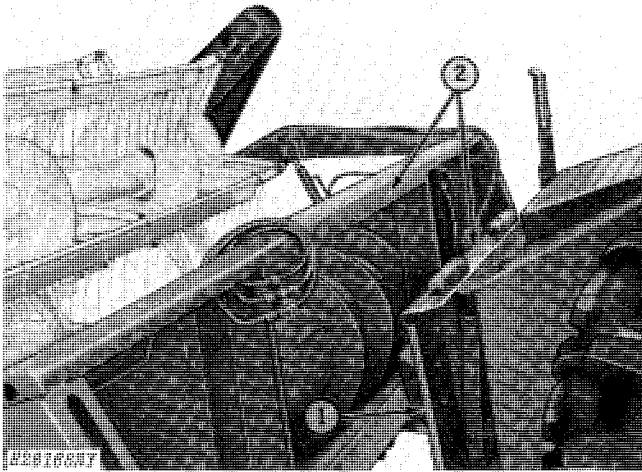

Fig. 81-Mounting Platform
1. Lower feeder house (Fig. 81).
2. Drive combine forward until feeder house is in place (Fig. 81). Raise feeder house.